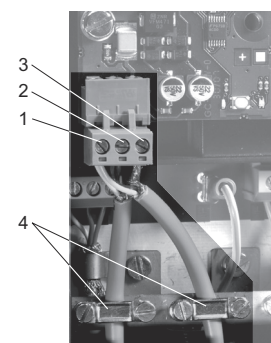

Fig. 4 Connecting the LON module
See fig. 4.
1. Connect the conductors to terminal A (pos. 1).
2. Connect the conductors to terminal B (pos. 2).
3. Connect the twisted screen ends to terminal "Screen" (pos. 3).
The screen must only be connected to the screen terminal of the CIM 100 LON module. See fig. 4, pos. 3.
The cable screen must never be connected to earth via the earth clamp. See fig. 4, pos. 4.